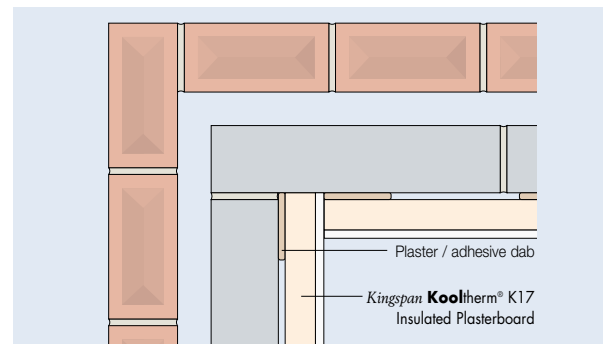

Figure 9 – Internal corner detail
- For external corners (including reveals), the lining should run past the corner and the insulating backing of **Kingspan Kooltherm® K17 Insulated Plasterboard** should be cut back to create a junction (see Figures 9 & 10). Sheets should be cut and rebated to allow a plasterboard / plasterboard joint at the angle (see Figures 9 & 10).
- Ensure sheets are lightly butted and air gaps minimised to reduce the risk of cold bridging (see Figures 9 & 11). Any air gaps should be sealed with flexible sealant or equivalent, or a combination of flexible polyurethane foam and flexible sealant or equivalent.